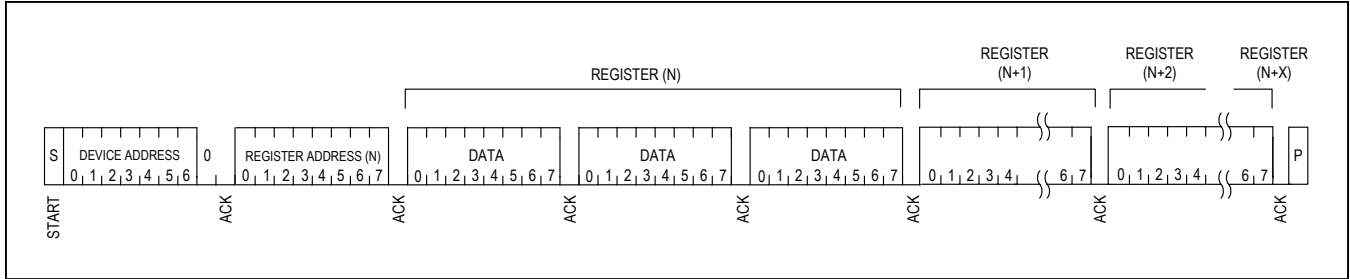

Figure 27. Single Transaction with Multiple Registers
Upon receiving a STOP (P) condition, the internal register address pointer will be incremented. The write access can be extended to multiple sequential registers. Figure 27 shows a single transaction with multiple registers written sequentially.